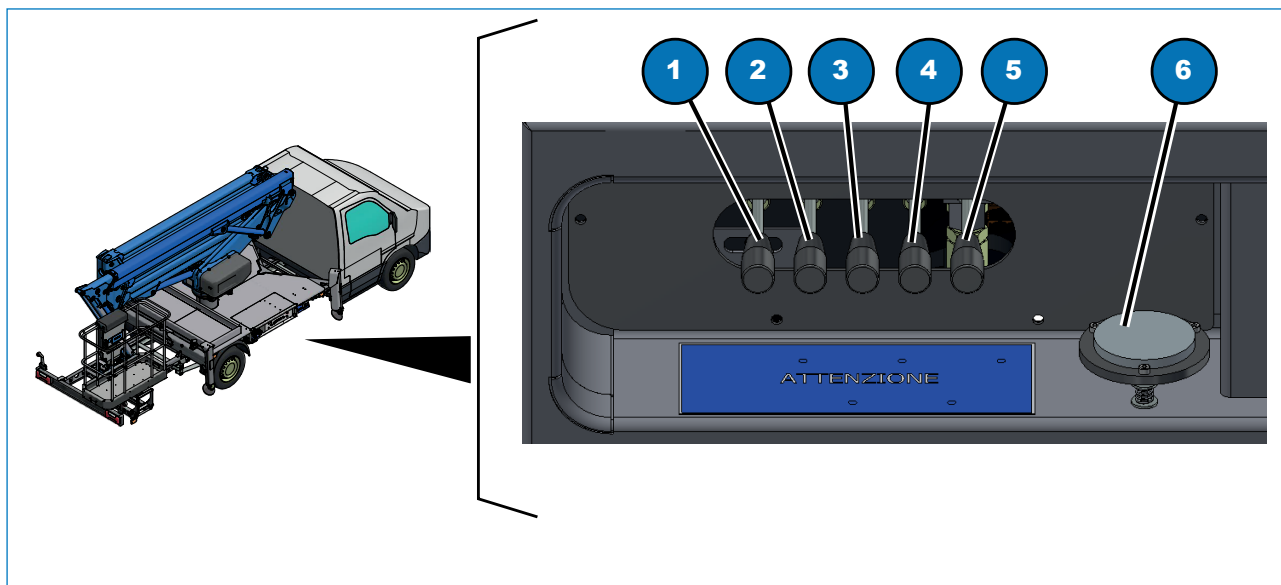

Fig. 6.3
- Extend the stabiliser beams by operating the lever in turn (Fig. 6.3, 5). Move the lever downwards to extend the beams, upwards to retract.
- Lower the stabilisers by operating the levers in turn (Fig. 6.3, 1, 2, 3 & 4). Move the levers downwards to extend the stabilisers, upwards to retract. Fully extend the stabilisers to lift up the vehicle and take the weight off the suspension.
- Check the spirit level (Fig. 6.3, 6) located under the stabiliser controls and level the vehicle using the stabiliser control levers. The machine is perfectly level when the bubble in the spirit level is at the centre (0°).
- Check that the indicator lights are on (Fig. 6.3, 1, 2, 3 & 4), which indicates that it is possible to raise the boom. The indicator lights will flash slowly when the stabilisers touch the ground and will have a steady light when minimum stabilisation is reached.
When the indicator light comes on it does not mean that the vehicle has been properly stabilised. This is only indicated by the spirit level (Fig. 6.3, 7).
To restart, rotate the selector switch (Fig. 6.3, 10) rightwards.
- retract the stabilisers completely by operating the levers (Fig. 6.3, 1, 2, 3 & 4); retract the beams completely by operating the lever (Fig. 6.3, 5);